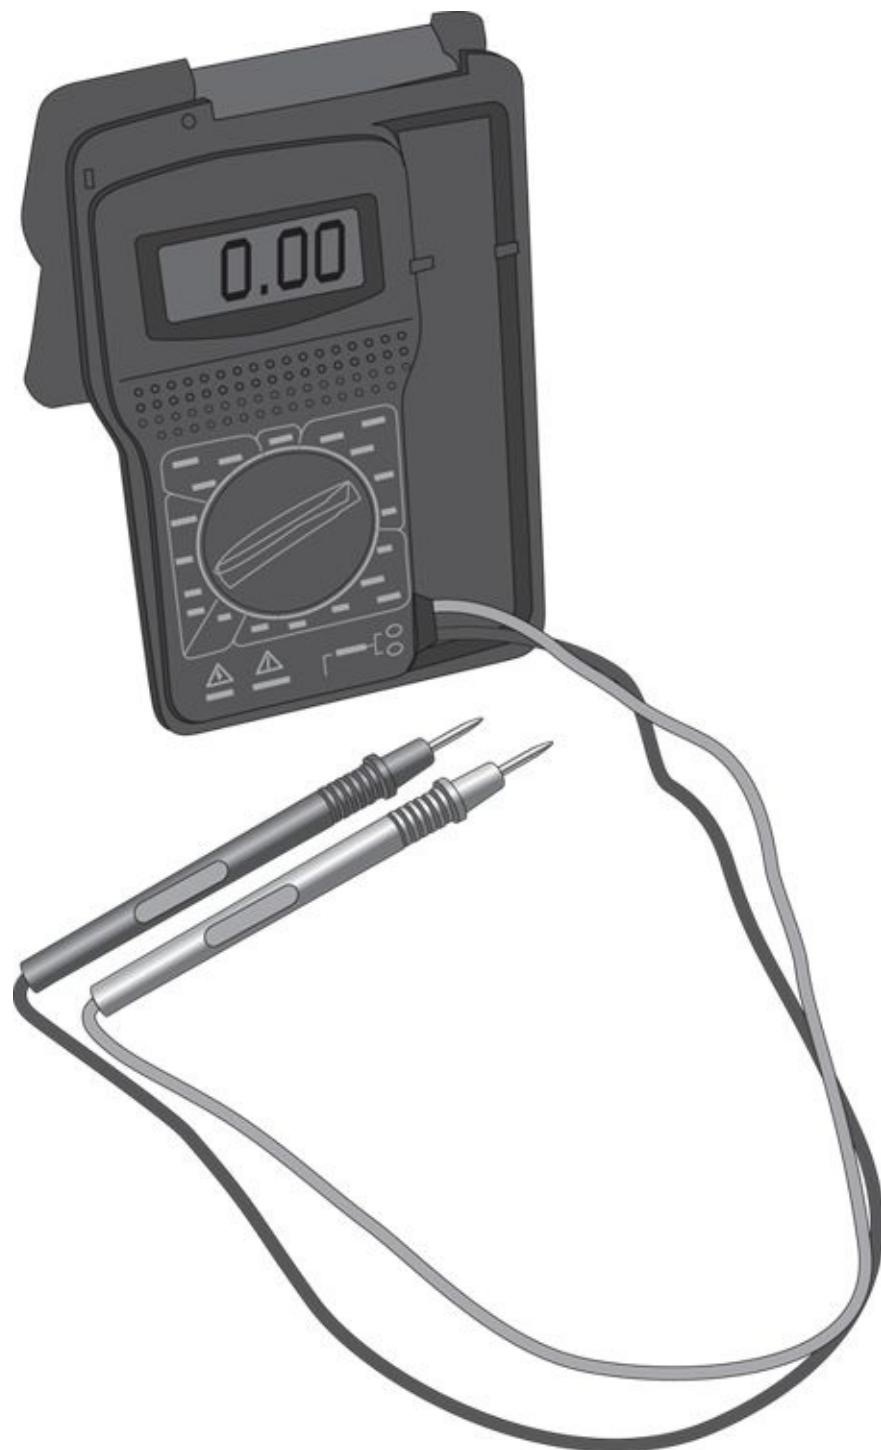

FIGURE 2-3: You can use a multimeter like this to measure voltage.
- You can find out how much voltage exists between two points by using a device known as a *voltmeter*, which has two wire *test leads* that you can touch to different points in a circuit to measure the voltage between those points. Figure 2-3 shows a typical voltmeter. (Actually, the meter shown in the figure is technically called a *multimeter* because it can measure things other than voltage. For more information about using a voltmeter, refer to Chapter 8 of this minibook.)